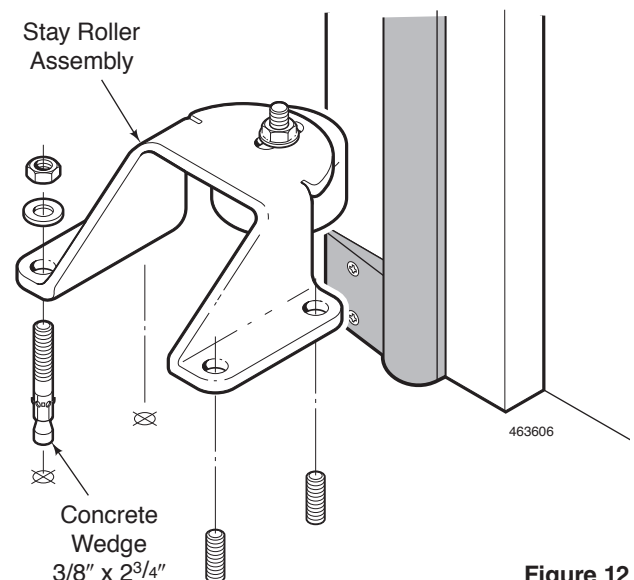

Figure 12
4. Use four $3/8"$ x $2-3/4"$ concrete wedge anchors to fasten each Stay Roller to the floor. See Figure 12.